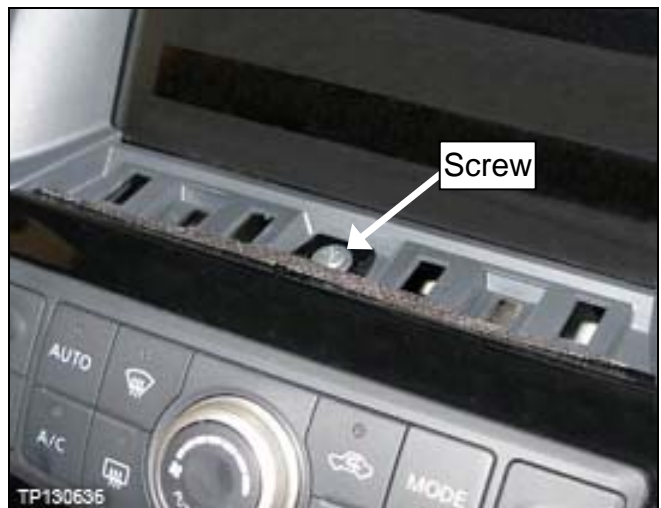

Figure 32
27. Remove the screw shown in Figure 32.